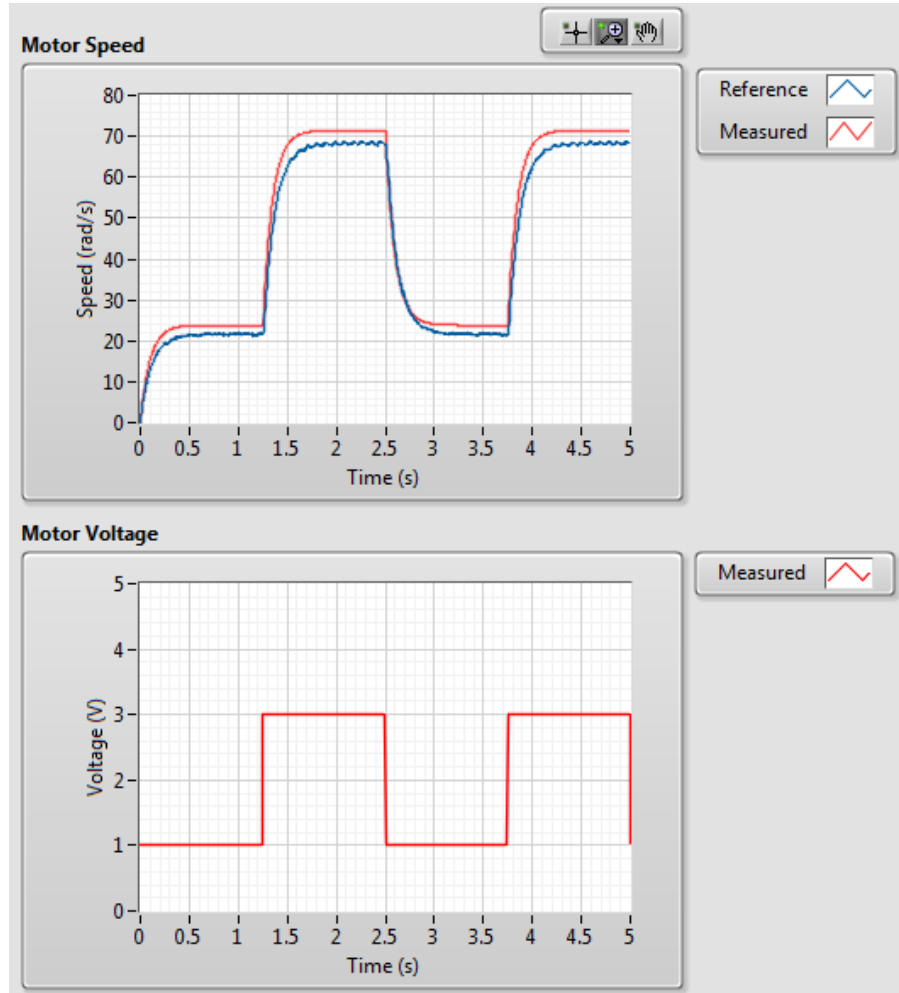

Figure 3: Measured and simulated response of the Quanser Controls Board DC motor
- Run the VI with your model. The waveform chart response should be similar to Figure 3.